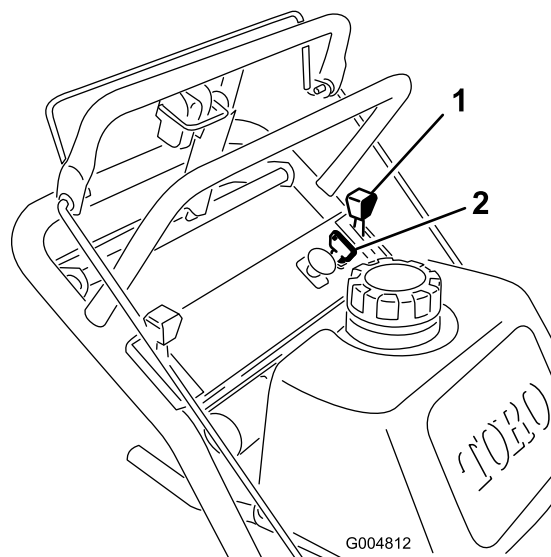

Figure 15
1. Move the throttle lever to the **slow** position (Figure 15).
3. Turn the ignition key to **off** (Figure 15).